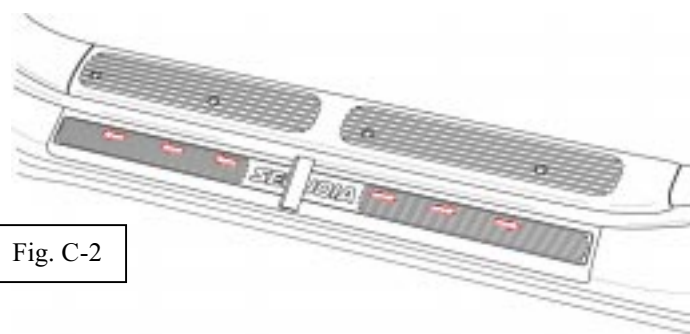

Fig. C-2
4. Using a felt block, squeegee the applique to the vehicle on the horizontal surface starting in the center and working out to each end with smooth overlapping strokes. (Fig. C-2)